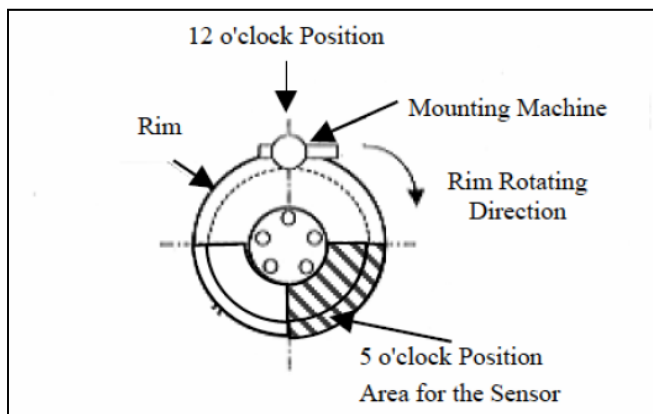

Figure 7b
- Re-position the wheel on the mounting machine with the sensor at ~ 5 o'clock position. See Figure 7b (Shaded Area).